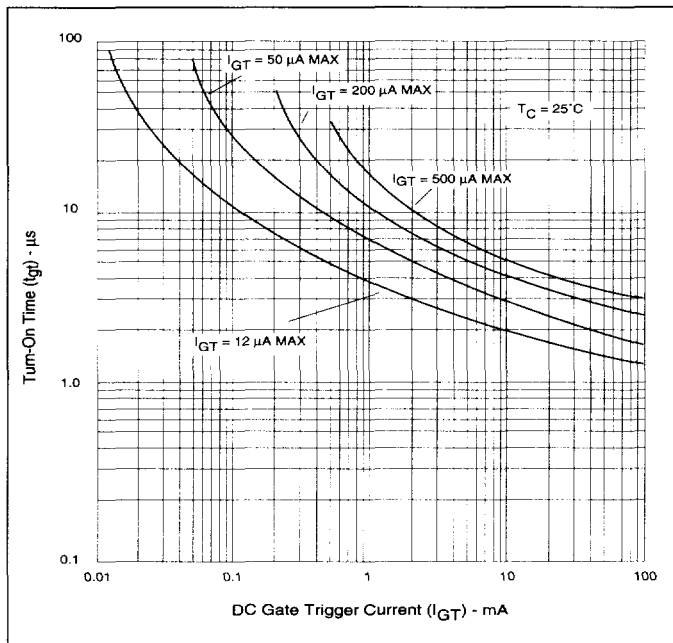

Figure 5.15 Typical Turn-On Time vs Gate Trigger Current
- (8) See Figure 5.15 for t_{GT} vs I_{GT} .
- (9) Test conditions as follows: